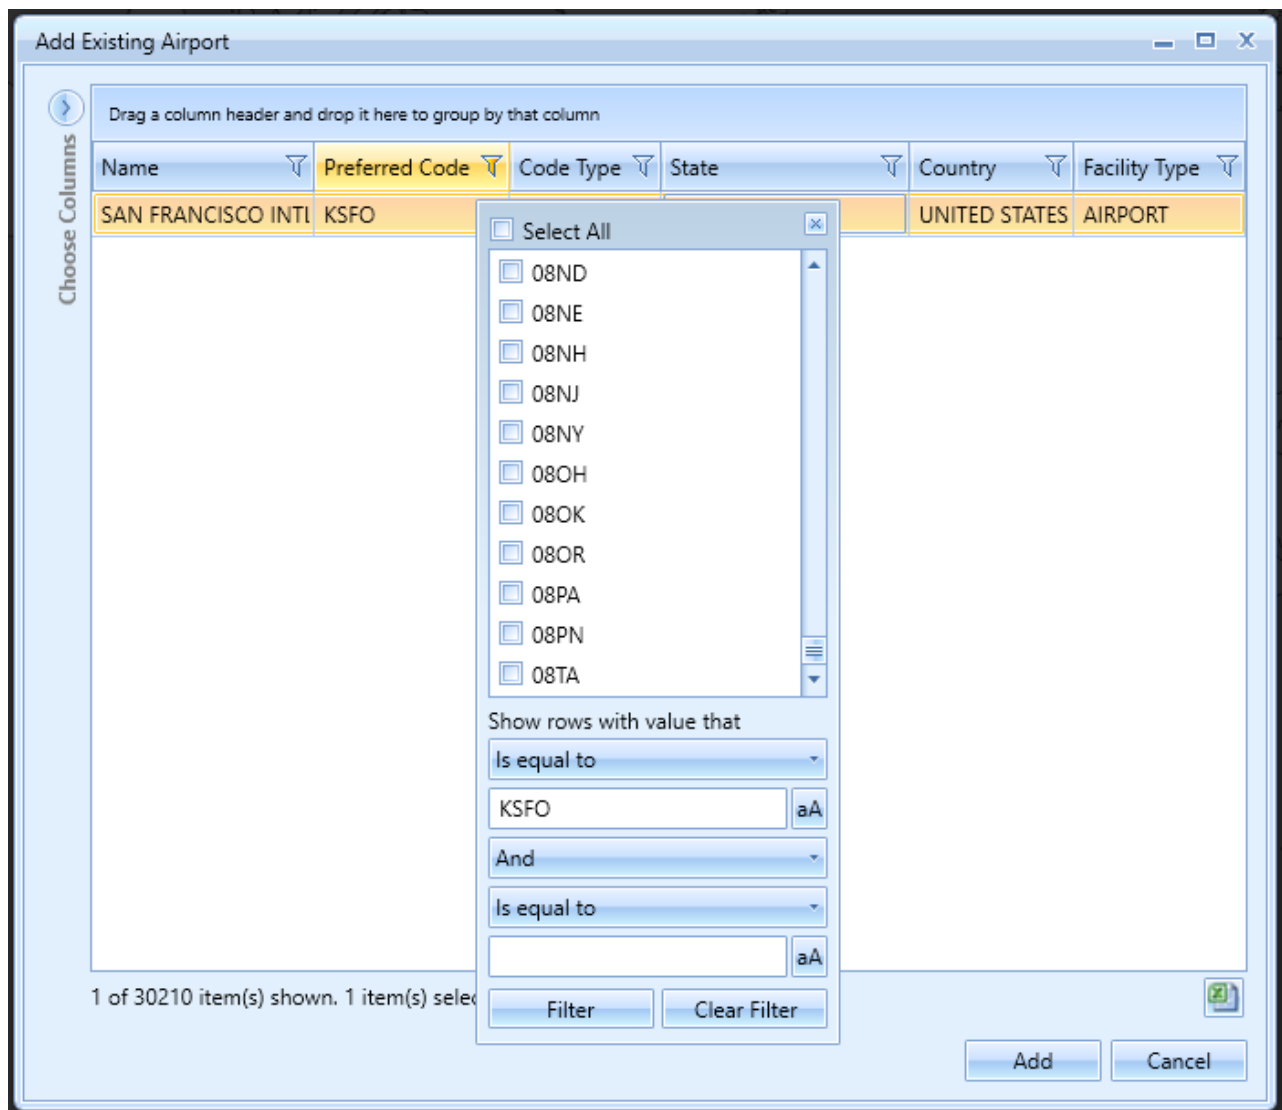

Figure 5- Add Existing Airport
2. In the *Add Existing Airport* dialog (Figure 5):